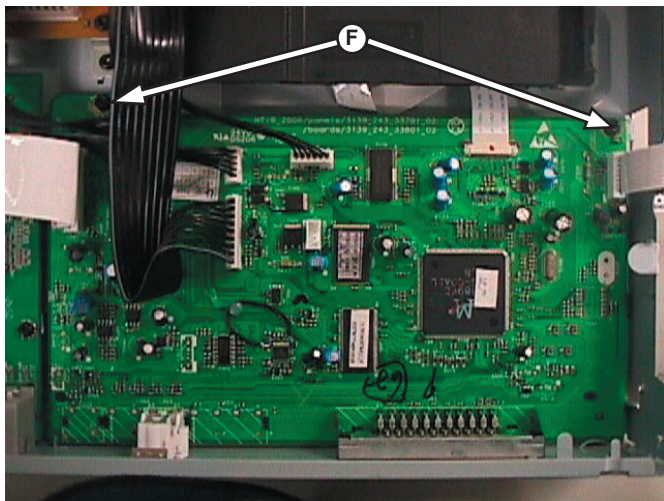

Figure 4-7
- 2) Loosen 2 screws D and E (See Figure 4-6 & Figure 4-7) to remove the Mono Board.